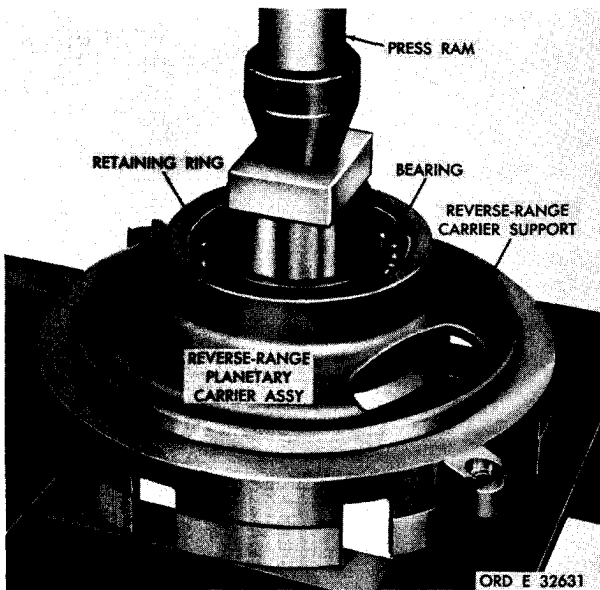

Figure 212. Removing reverse-range planetary carrier assembly
a. Using a press, remove the reverse-range planetary carrier assembly from its support (fig. 212).
b. Remove the retaining ring retaining the bearing in the carrier support (fig. 212).
c. Using a press, remove the bearing from the carrier support (fig. 212).